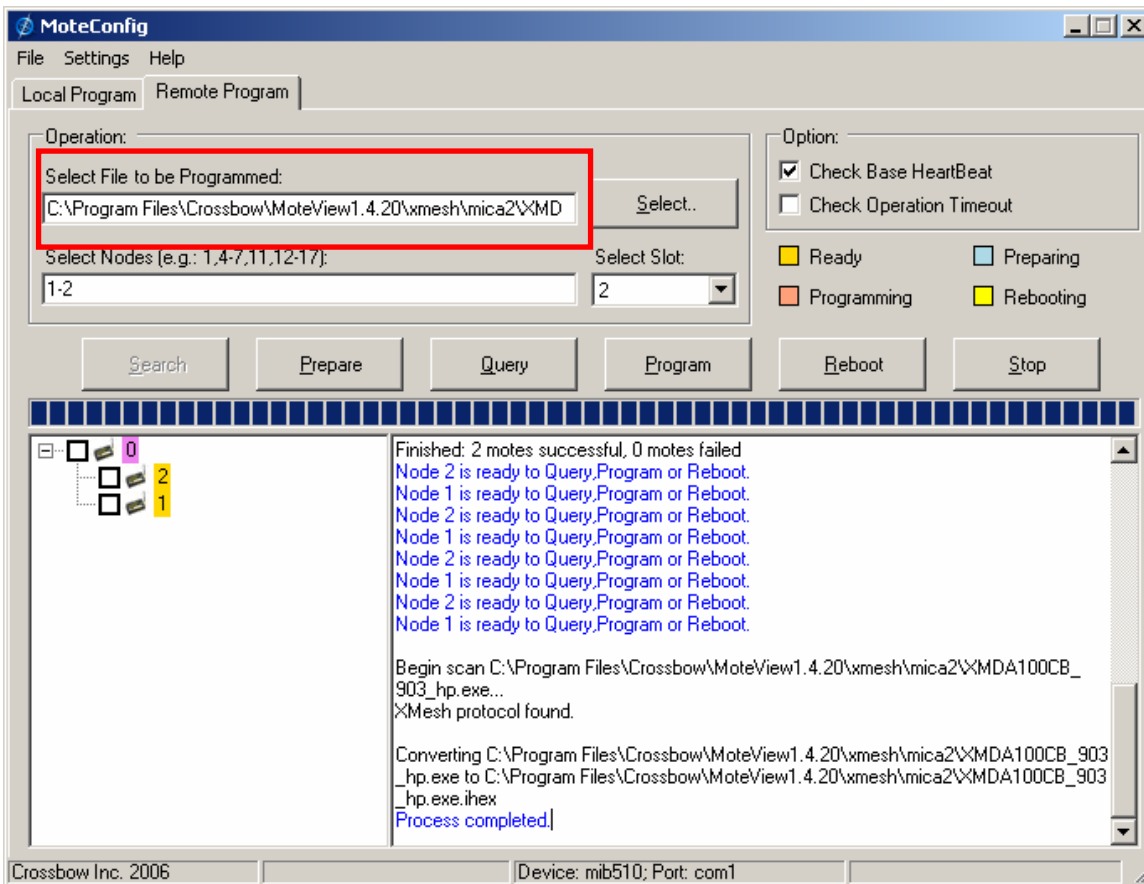

Figure 5-7: Select an application for programming
1. Select the firmware application, as shown in Figure 5-7